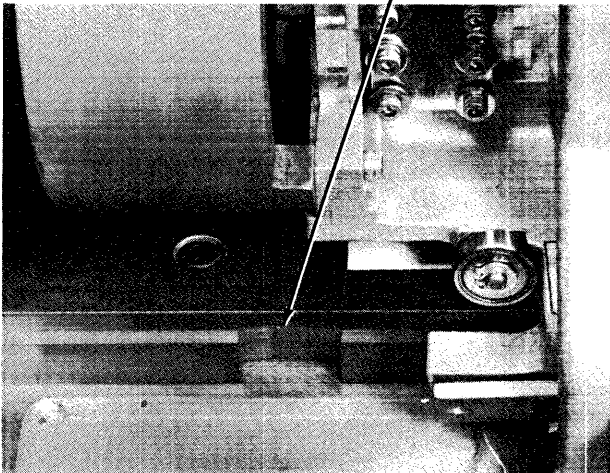

Figure 5-58. Carriage Detent Ramp
- c. Extend head carriage forward very slowly until both microswitches "click" simultaneously. Observe that carriage roller has moved forward approximately ¼-inch (see Figure 5-58).